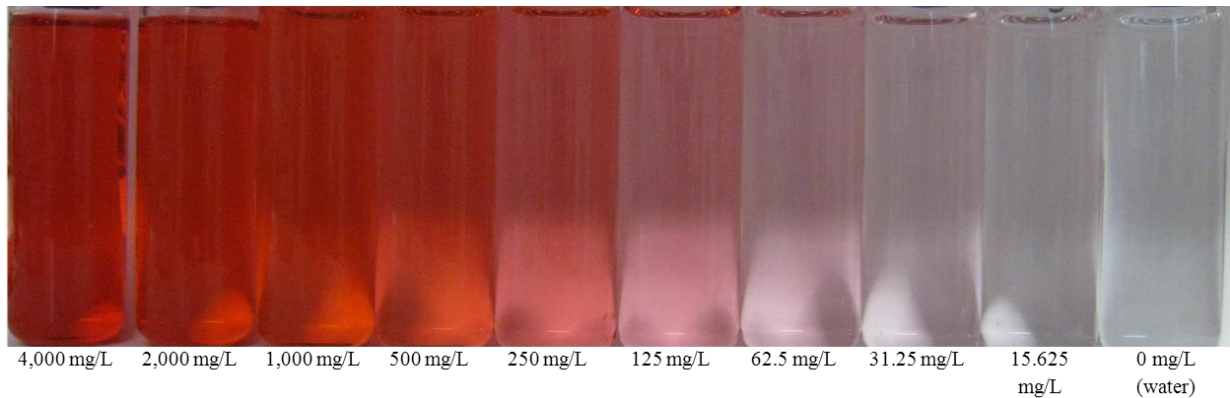

Figure 1 Example color chart to estimate the concentration of influent and effluent dye.
4. After students have collected the effluent from their filter, they can visually compare their sample color to the color of the standards and estimate the dye concentration in their sample. Pictures can also be taken of the vials and a chart constructed for comparison (similar to Figure 1). For comparison, a vial containing water should also be filled. Below is a picture of the vials containing the standards prepared using this procedure: